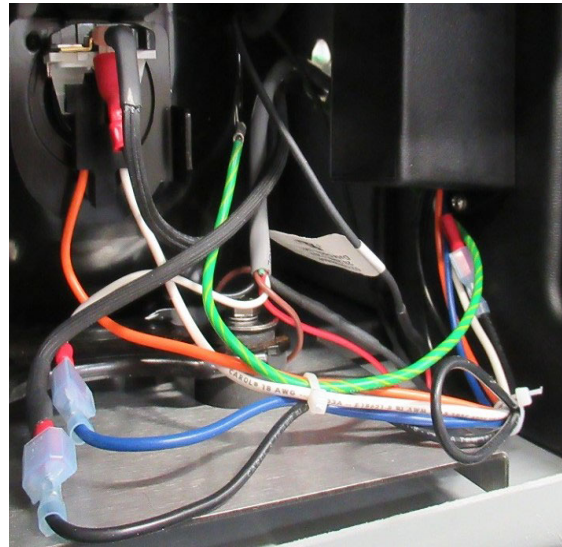

Figure 3: 115 VAC wiring connections
3. Unplug the black connector with the orange and white wires from the bottom 2 pins on the compressor. *Figure 3.*
4. Disconnect the blue wire from the capacitor/relay assembly from the white wire from the heater. *Figure 3.*
5. Disconnect the black wire from the capacitor/relay assembly from the ribbed black fan wire. Remove the capacitor/relay assembly. *Figure 3.*
8. Plug the black connector from the new assembly onto the compressor pins below the overload. Be sure the black connector is oriented so the orange wire is on the left side. *Figure 3.*
9. Connect the loose black wire from the capacitor/relay assembly to the ribbed black fan wire. *Figure 3.*
10. Connect the blue wire from the capacitor/relay assembly to the white wire from the heater. *Figure 3.*